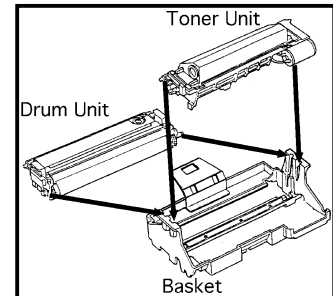

Figure 2
3. Grasp the toner transfer unit by its handles (Fig. 2) and remove it from the basket. Place the toner transfer unit on a piece of scrap paper.